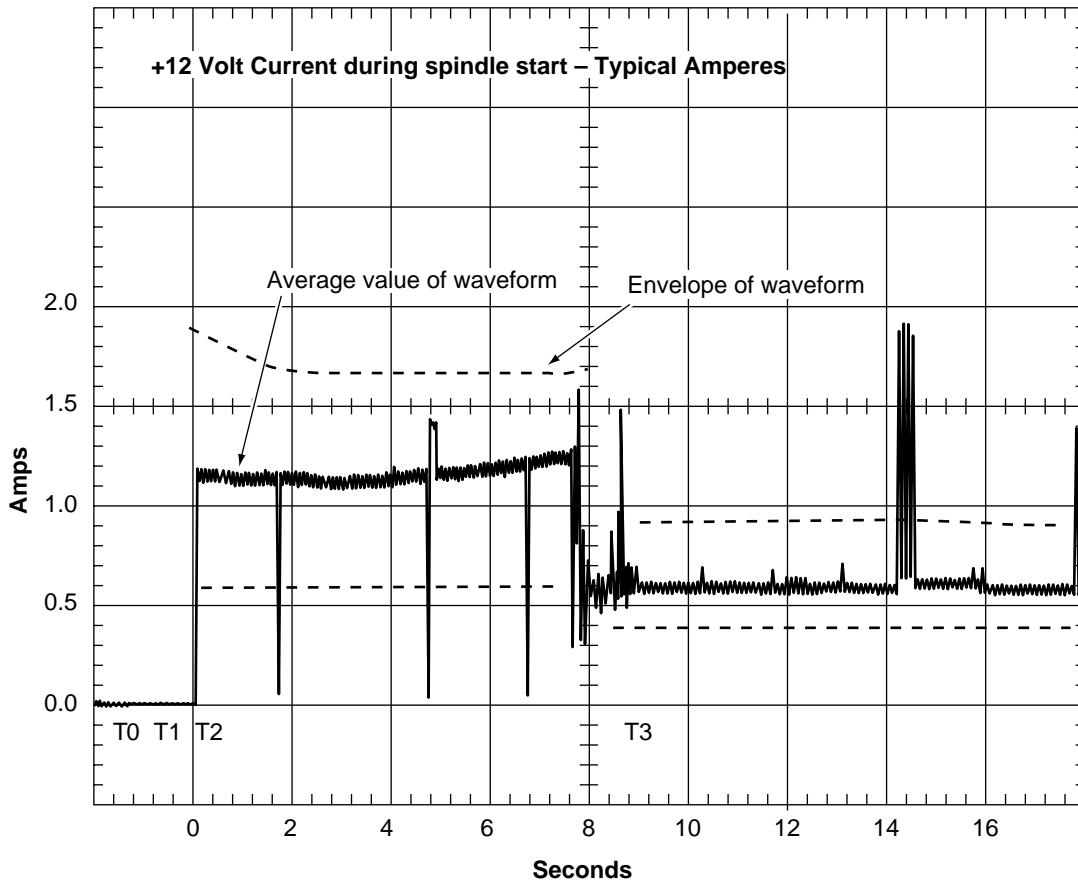

Figure 3. Typical ST318203FC drive +12V current profile
- [3] See +12V current profile in Figure 3.
Figure 3 identifies the drive +12V current profile and Figure. The current during the various times is as shown: